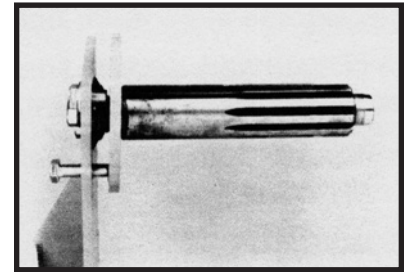

Figure 2
4. Use the adjusting screw to change the angle of the input shaft so it matches the angle of the vehicle clutch assembly. See Figures 2 and 3.
4. Use the adjusting screw to change the angle of the flywheel adapter so it matches the angle of the flywheel assembly. See Figure 2.